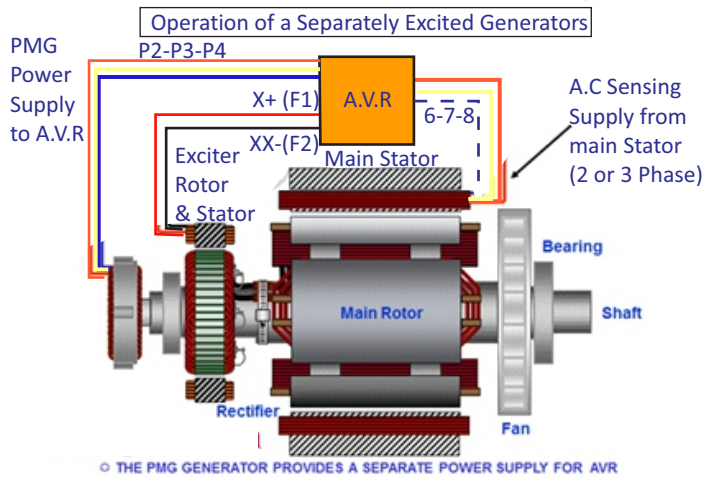

Fig. 2.12.26 Operation of Separately Excited Generators
2. Take out the Exciter system of the Alternator. The positioning of the Exciter system is shown in the figure below(Refer to Figure 2.12.26 and 2.12.27).